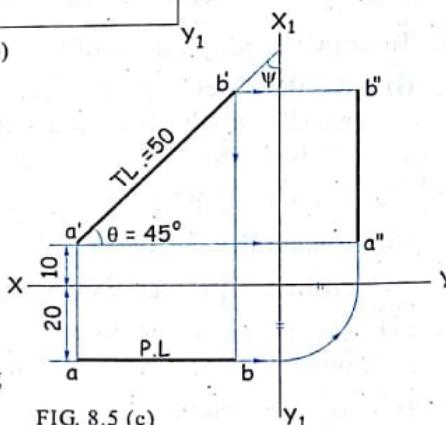

FIG. 8.5 (c)
1. The required position of line AB is shown in figure 8.5 (a), with its projections, i.e. F.V. ($a'b'$) and T.V. (ab).